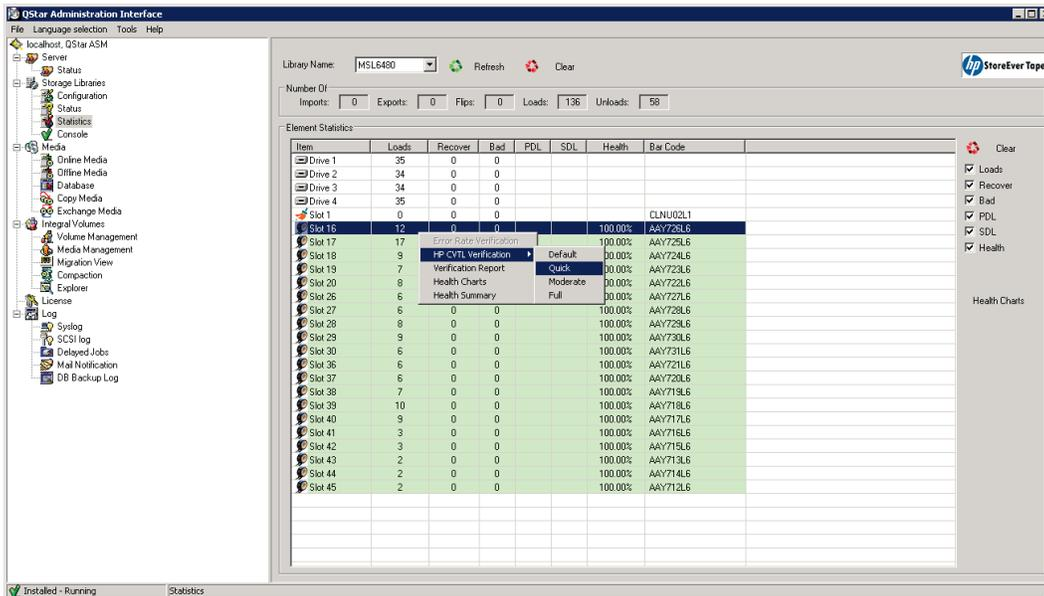

Figure 23. Manually running verification for tape media
2. Right-click on any **Slot** (the barcode for each slot is also listed), which is your tape cartridge, and one of the available options listed will be **HPE CVTL Verification**. You can then choose to run a **Quick**, **Moderate**, or **Full** verification of the selected media. See figure 23 as an example. For more information on how long each data verification test will take to complete, refer to the section **Example Verification Times** of the technical white paper on HPE StoreEver Data Verification titled Protecting Your Data.
- You can view a graphical representation of various statistics for each media in your HPE StoreEver Tape Library while on the **Statistics** page under **Storage Libraries** in the QStar Administration Interface by right-clicking on the preferred **Slot** then choose **Health Charts** or select the preferred **Slot** then click on the **Health Charts** button (both Health Charts selections can be seen in **figure 23** above).